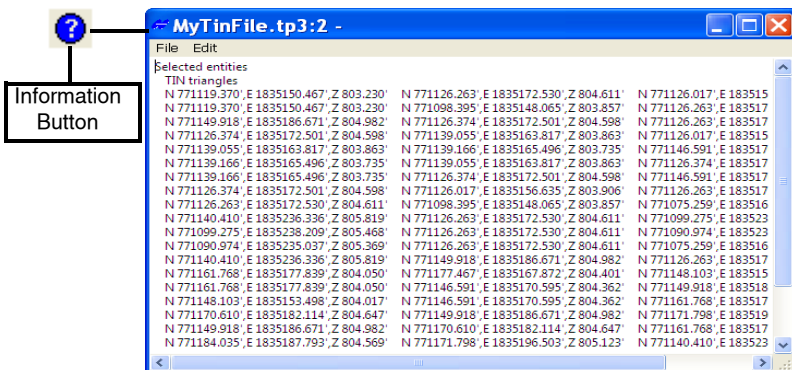

Figure 3-10. Click Information Button and View Selected Entities
2. Click the activated **Information** button on the toolbar. A text editor window opens to display relevant information about the selected entities (Figure 3-10).